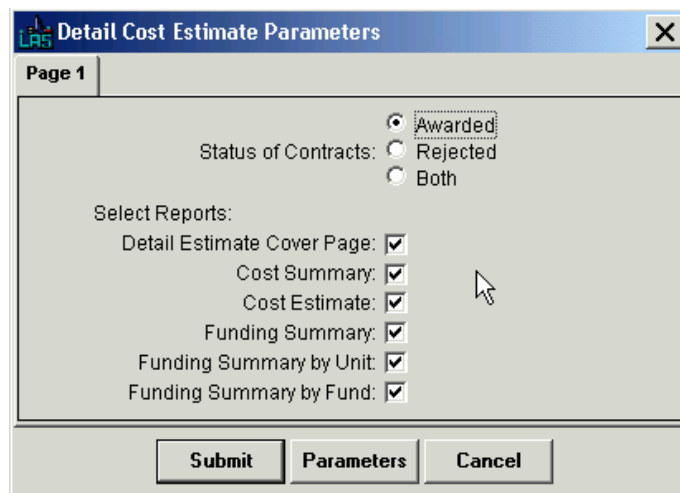

Figure 10-12. Detail Cost Estimate Parameters Window
3. Select **Generate Final Detail Estimate** and click OK. Trns•port displays the Detail Cost Estimate Parameters window (see Figure 10-12).